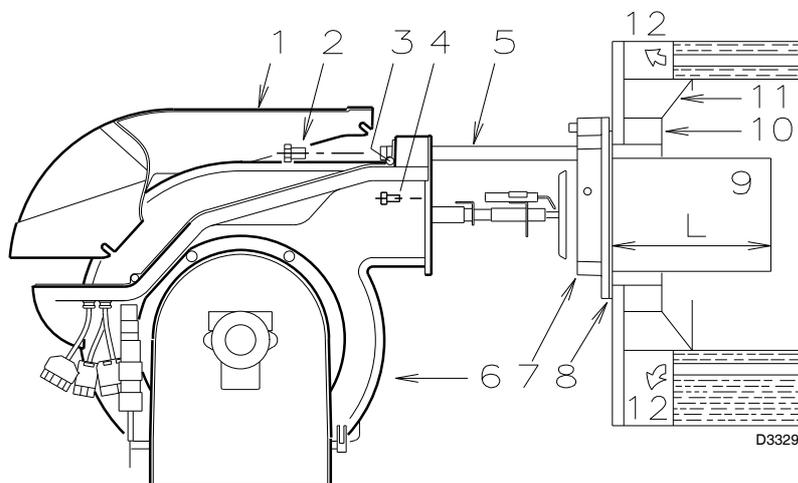

Fig. 7
For boilers having a water-cooled front the refractory fettling 10)-11)(Fig. 7) is not required unless it is expressly requested by the boiler manufacturer.
Secure flange 7) (Fig. 7) to the boiler plate interposing the supplied gasket 8)(Fig. 7). Use the 4 screws provided after having protected the thread with anticruffing products.
- Retract the burner on its slide bars as shown in (Fig. 7 page 10).